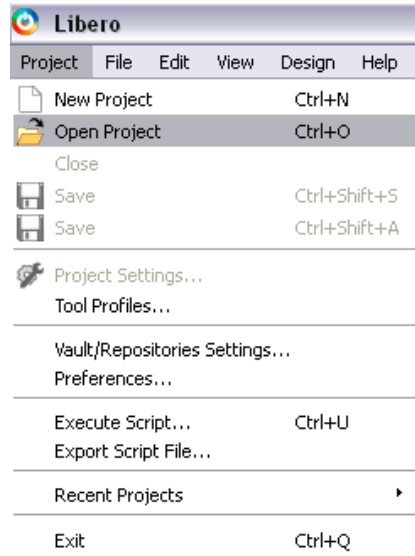

Figure 2 Opening Libero Project
2. Open the Core8051s_Ext_SRAM project folder, as shown in Figure 2.